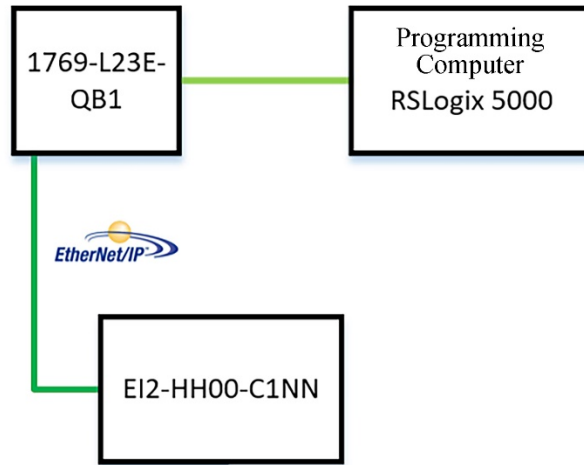

Fig.5-7-40 Communication Link Diagram
1. See Fig.5-7-40 for the communication link diagram.